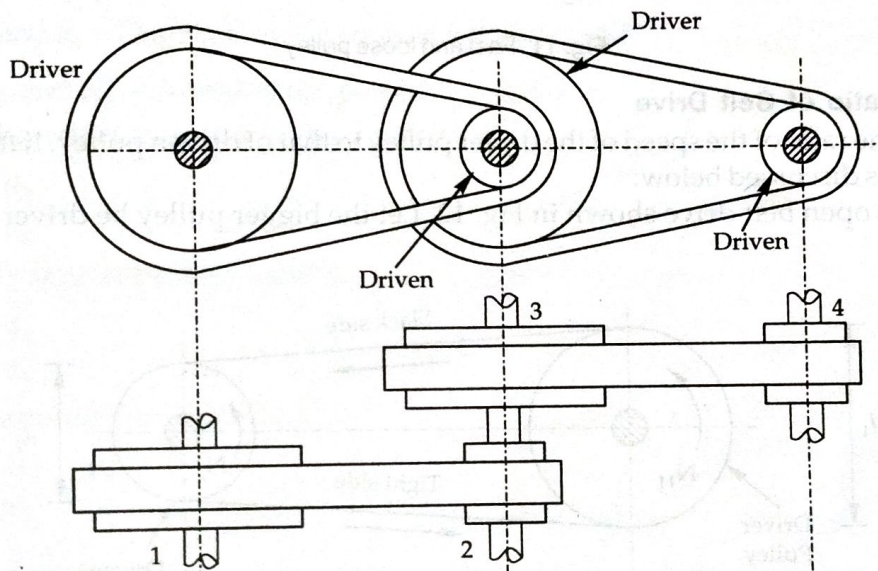

Fig. 9 Compound belt drive
5. **Compound belt drive:** This type of drive is used when power is transmitted from one shaft to another through a number of pulleys. It is shown in Fig. 9.